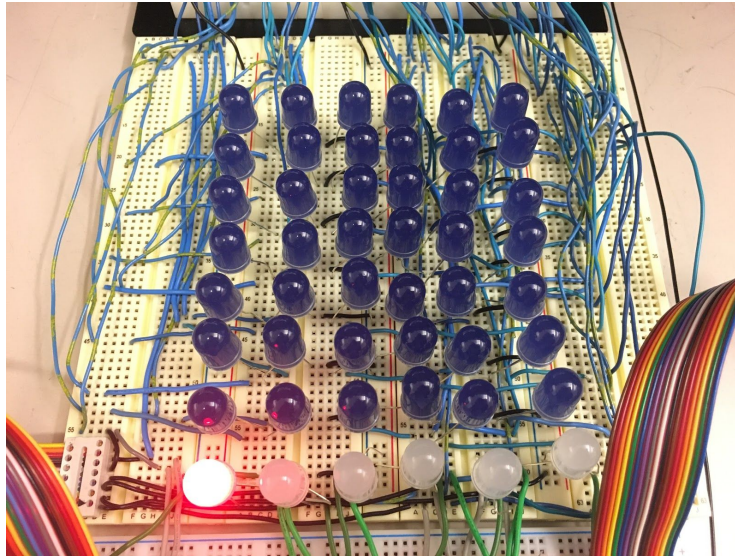
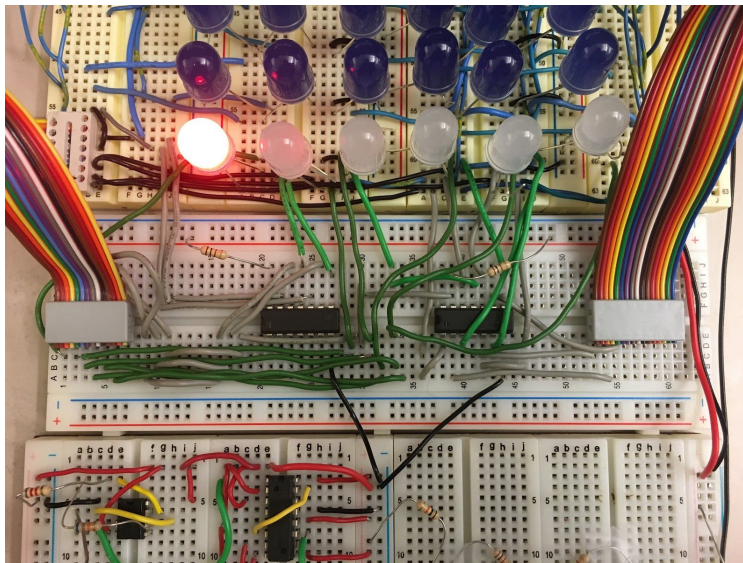

Figure 1. 8x6 matrix of LEDs
Figure 3. OR2 gates, data outputs and grounds (red) to the last row of RGB LED
- Made up of 6 columns, each consists of 7 blue LEDs and 1 common anode RGB LED for the last row (Figure 1). We tested common anode RGB LEDs and found that the red overwrites the blue when both are grounded. The blue grounds of the RGB LEDs are all connected to ground. We NOTed the outputs from the demultiplexer and connected them to the red grounds of the common anode RGB LEDs (Figure 3). So the RGB LEDs appear blue when the shift registers output HIGH and only appear red when the